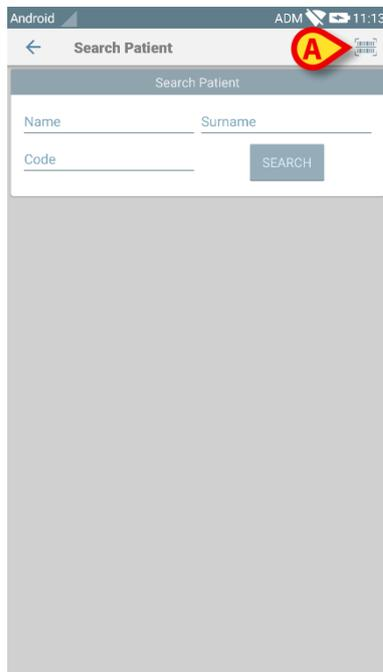

Fig 157
- Touch the  icon indicated in Fig 157 **A**.